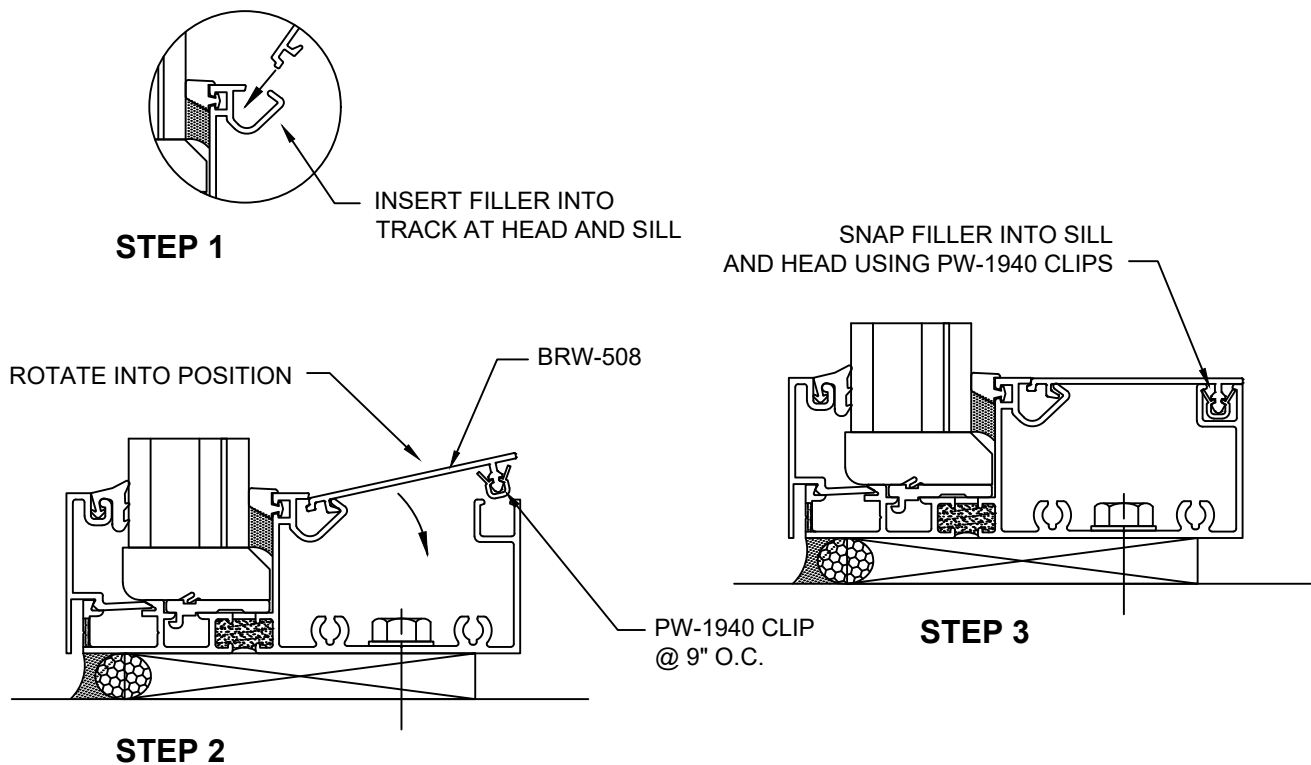
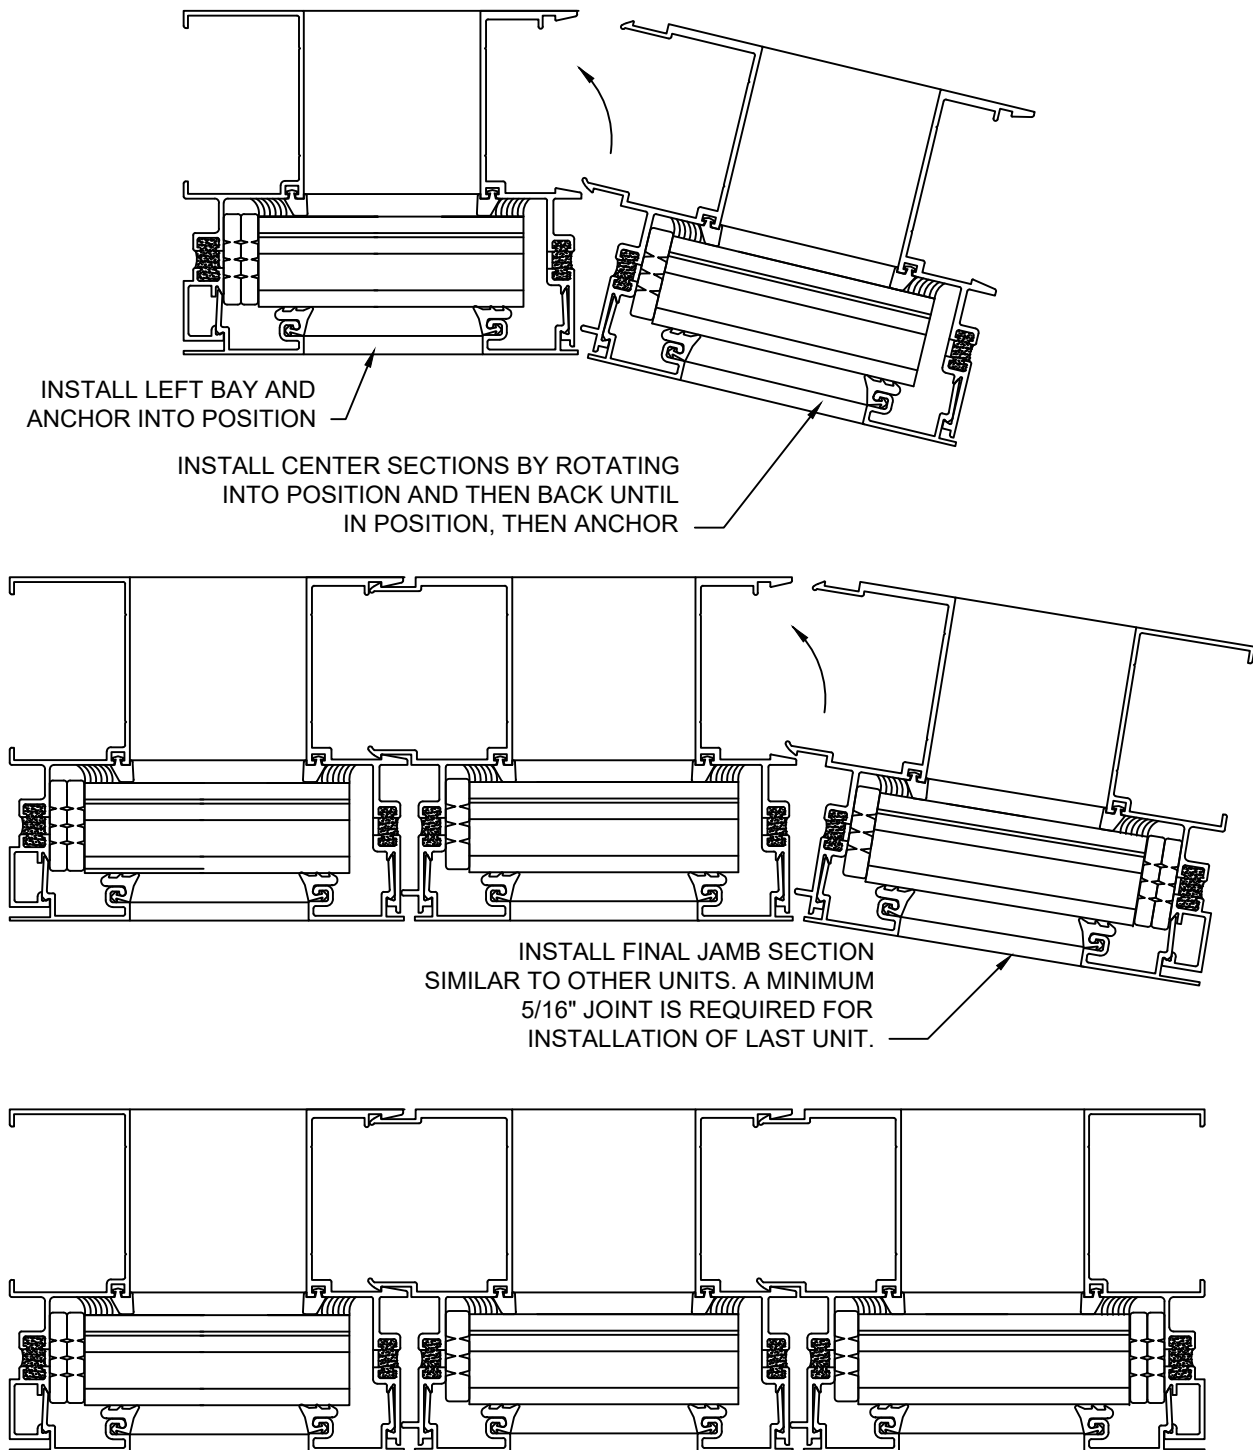

FIGURE 13
FIGURE 14
- 4.1 Begin installation of frames at left jamb. Locate in opening positioning frame to be plumb and level. Attach frame to opening using anchor bolts as shown in FIGURE 13. Anchor size to be determined by project requirements. Position and install additional units as shown in FIGURE 14, page 16.
- 4.2 Once frame has been installed. Install BRW-508 sill and head fillers. PW-1940 isolator clips should be attached to filler at 9" on center, rotate filler into pocket at head or sill and then snap into position as shown. See FIGURE 13.